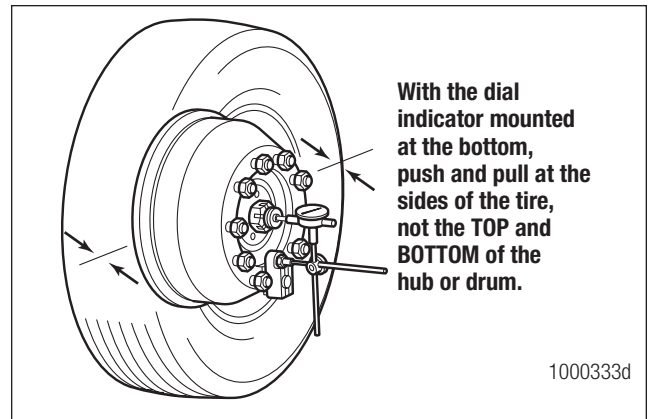

Figure 9.1
6. Adjust the dial indicator so that the pointer is against the center of the knuckle. Set the dial indicator on ZERO. Figure 9.1.
7. Measure the end play by pushing and pulling on each side of the hub or drum while looking at the indicator. The end play is the total travel observed. Do not push or pull at the top and the bottom of the hub or drum, which can affect the end play measurement. Figure 9.1.